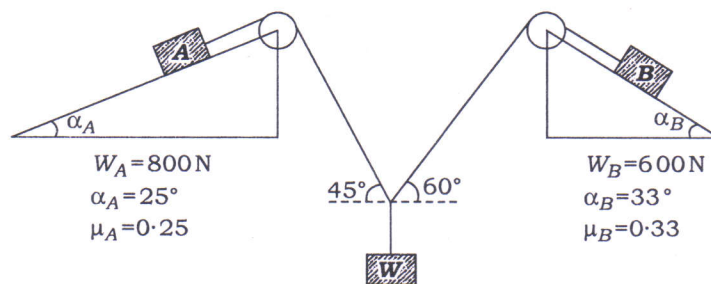

Fig. 2(a)
2. (a) The blocks *A* and *B* are kept in equilibrium by the arrangements shown in Fig. 2(a) below. Assuming the pulleys smooth, compute the least and the highest magnitude of *W* to keep the system in equilibrium. In each case, also compute the tension induced in the string :